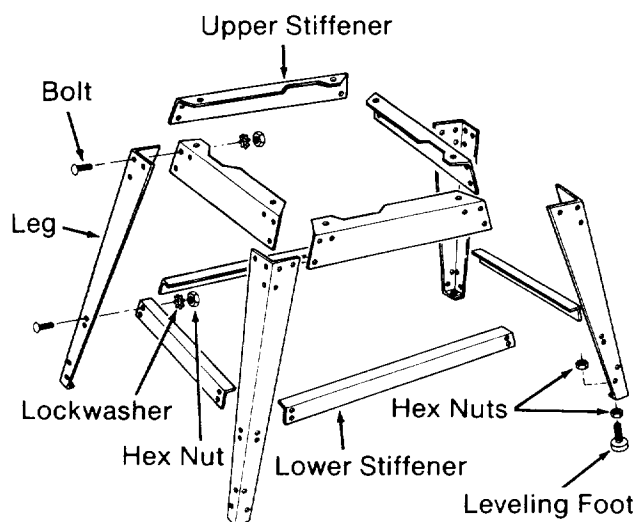

Fig. 33
1. Attach the four (4) *legs* to the four (4) *upper stiffeners* as shown. Three (3) truss head bolts, washers, and nuts are required to fasten each end of *upper stiffener* to a *leg*. Hand tighten hex nuts. (Figure 33)
2. Attach the four (4) *lower stiffeners* to the *legs*. Two (2) truss head bolts, washers and nuts are required to hold each end of a *lower stiffener* in place. Hand tighten hex nuts.